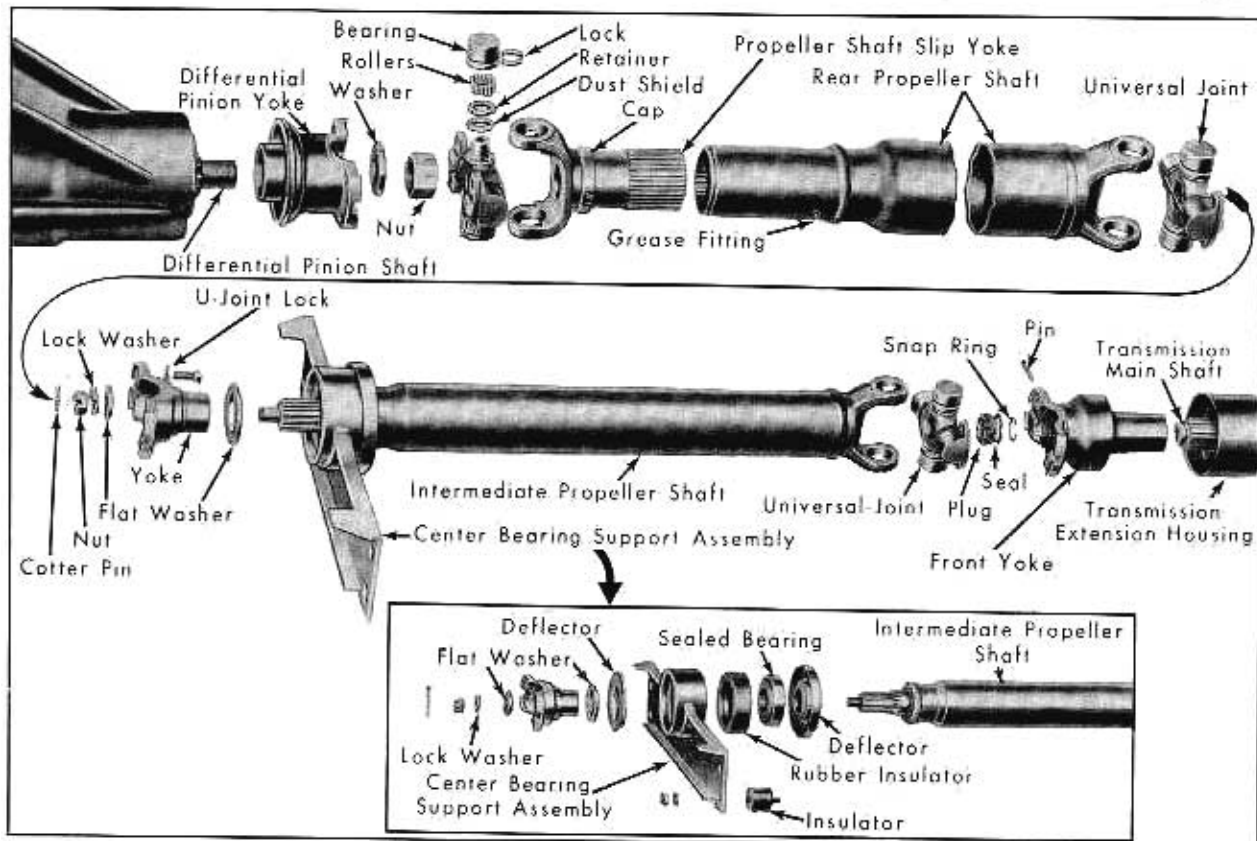

Fig. 8-14 Series 75 and 86 Propeller Shafts - Disassembled
3. Remove cotter pin, castellated-nut, lock washer, and flat washer which hold the universal joint yoke to the spline end of the front propeller shaft. Fig. 8-14.